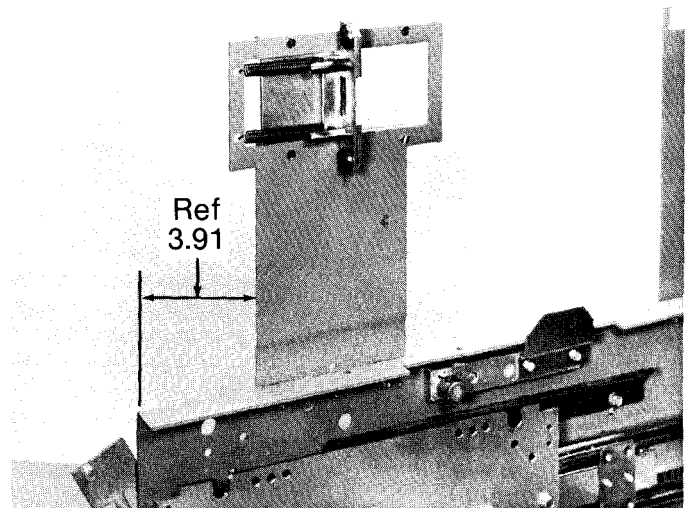
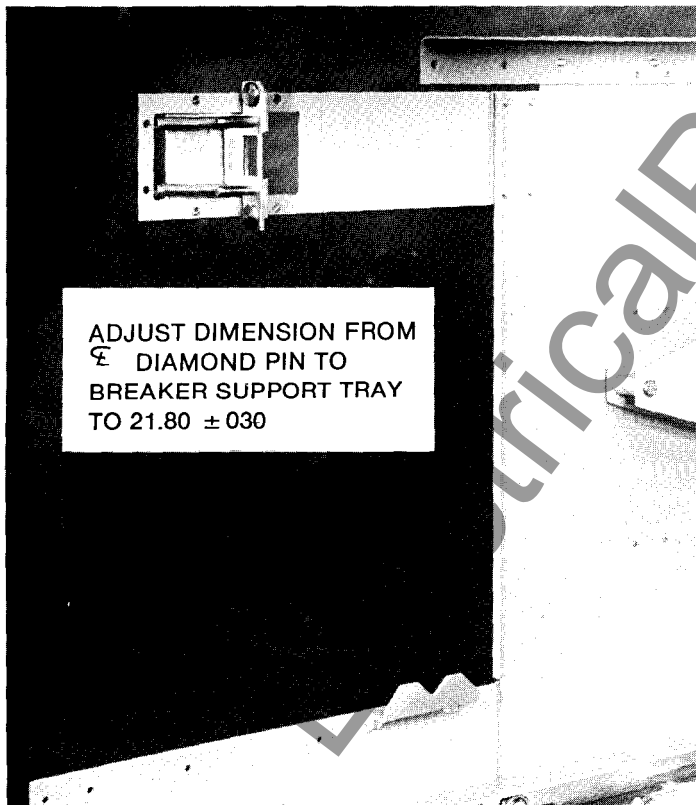

Figure 1 343L806G2 Disconnect assembly (24 pin) installed. 343L806G9 similar except 12 pin disconnect.
Figure 2. 343L806G3 Disconnect assembly (24 in) installed. 343L806G10 similar except 12 pin disconnect.
1. Install the disconnect assembly to the left-hand substructure frame, as shown in Figure 1 or Figure 2. Use the hardware provided.